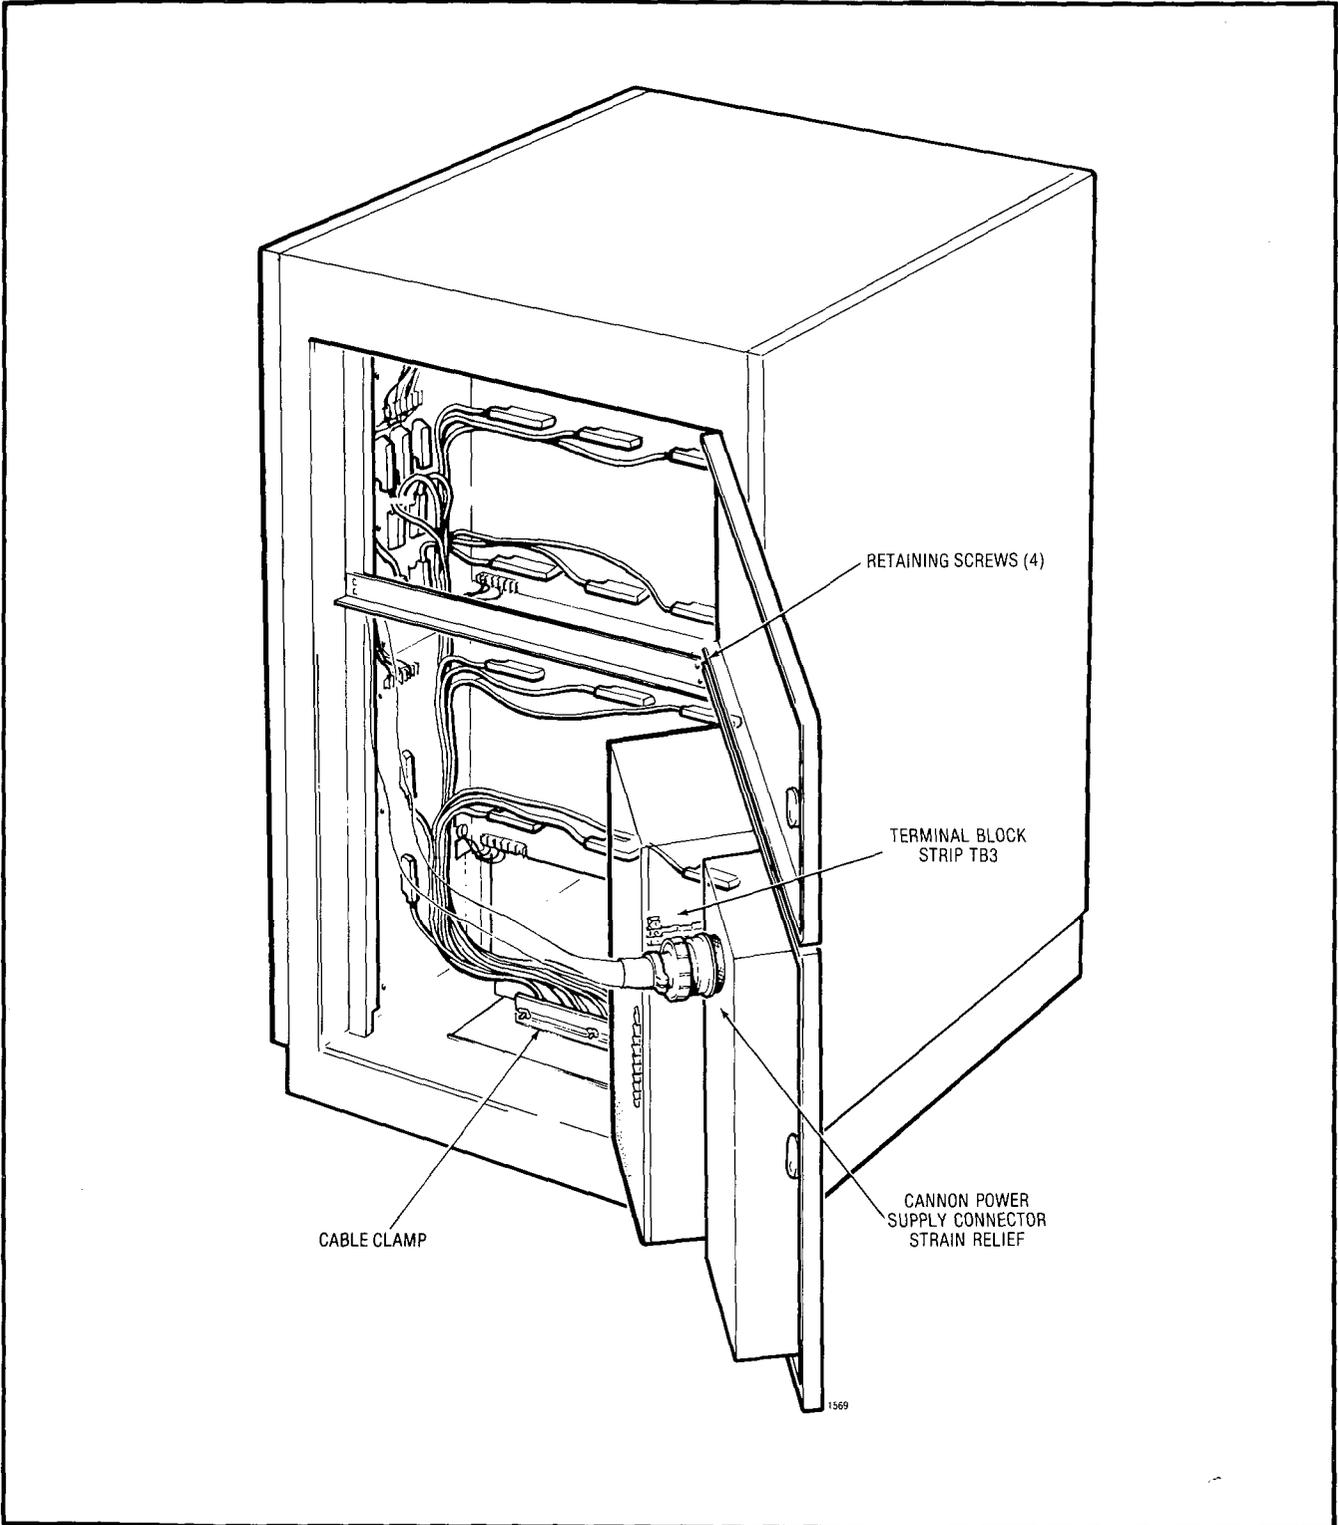

Fig. 507-1
- AT THE REAR DOOR OF THE CABINET (FIG. 507-1)